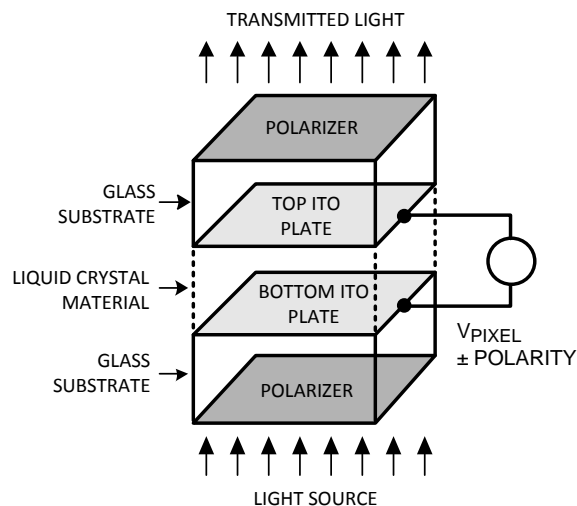

Figure 25. Individual LCD Pixel
To better understand these op amp applications, let's first review a few basic concepts of how a TFT display operates. Figure 25 is a simplified illustration of an LCD pixel. The top and bottom plates of each pixel consist of Indium-Tin oxide (ITO), which is a transparent, electrically conductive material. ITO lies on the inner surfaces of two glass substrates that are the front and back glass panels of a TFT display. Sandwiched between the two ITO plates is an insulating material (liquid crystal) that alters the polarization of light to a lesser or greater amount, depending on how much voltage (V_{PIXEL}) is applied across the two plates. Polarizers are placed on the outer surfaces of the two glass substrates, which in combination with the liquid crystal create a variable light filter that modulates light transmitted from the back to the front of a display. A pixel's bottom plate lies on the backside of a display where a light source is applied, and the top plate lies on the front, facing the viewer. On a Twisted Neumatic (TN) display, which is typical of most TFT displays, a pixel transmits the greatest amount of light when V_{PIXEL} is less than $\pm 0.5V$, and it becomes less transparent as this voltage increases with either a positive or negative polarity. In short, an LCD pixel can be thought of as a capacitor, through which, a controlled amount of light is transmitted by varying V_{PIXEL} .